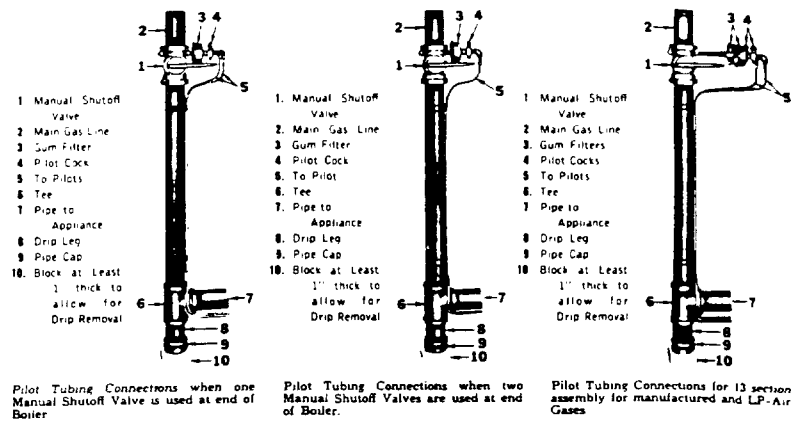

FIG. 16—Supply Piping Arrangements
4 Install manual shutoff valve assembly as shown in Fig. 16.
1. Connect pilot line from manual shutoff valve assembly (See Fig 16) to front pilot burner tubings. Install on top of spud holders. Connect a similar line to the rear pilot burners.
1. Connect pilot line from manual shutoff valve assembly (Fig. 16) to left front pilot burner tubings. Install on top of spud holders. Connect a similar line to left rear pilot burners. Connect similar pilot lines to right front and right rear pilot burners.